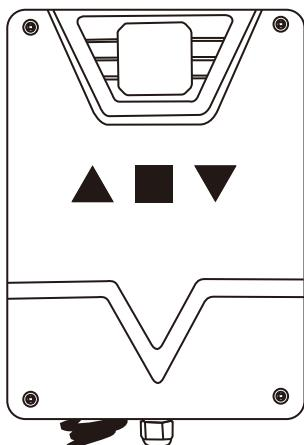

Figure 11
Step 1. Open the gate opener housing, you will access the control box, there are 3 buttons in the box housing, includes UP, Stop and Down. Fig 11